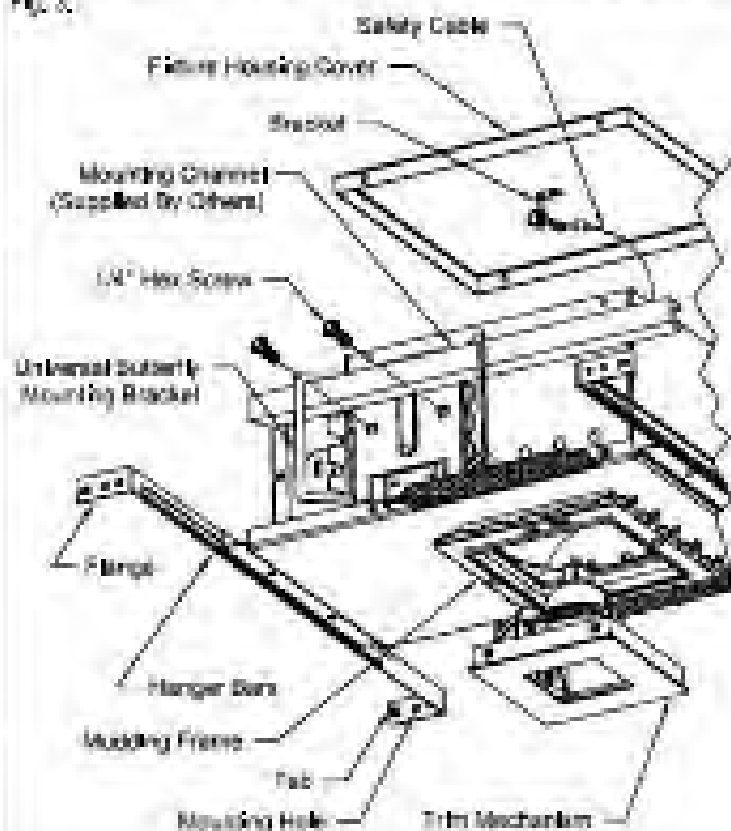
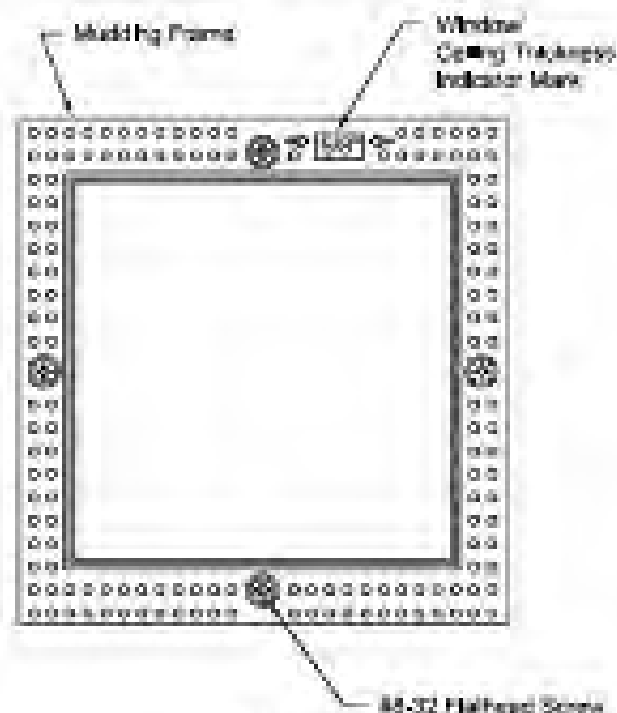
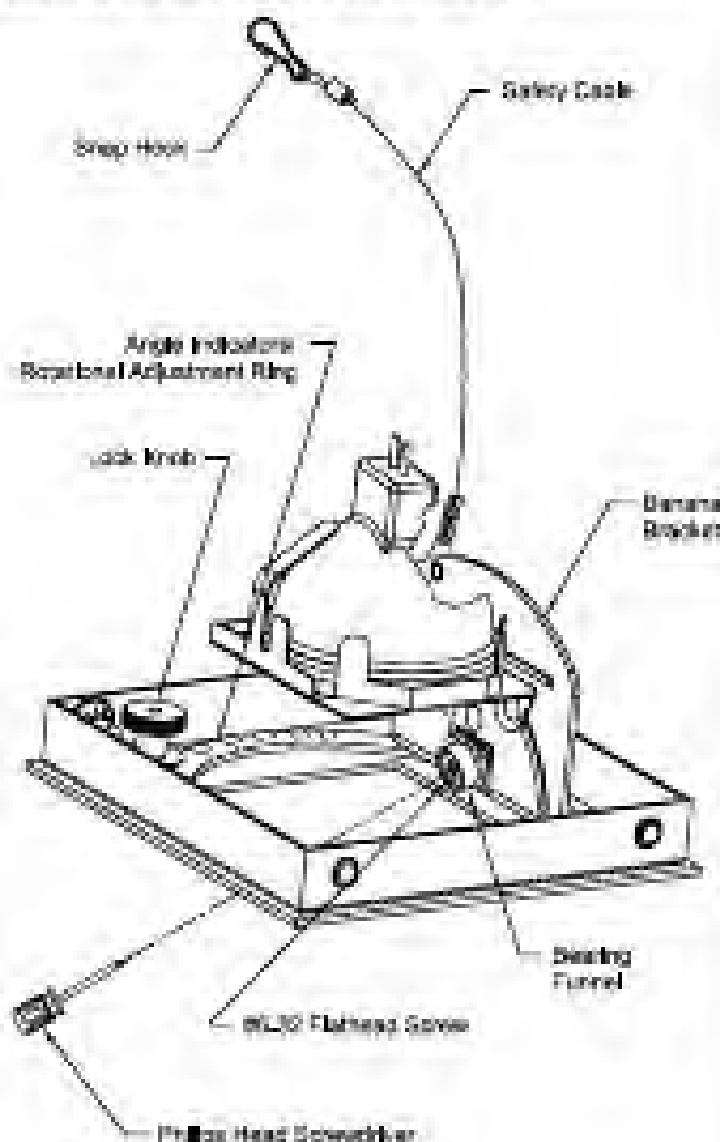

Figure 1
Figure 2
Figure 5
1. Fixture comes equipped with Universal Butterfly Mounting Brackets and can take common 1 inch or 1 1/2 inch Black Iron or Galvanized Mounting Channels (Supplied by Others). See Fig. 1.
3. Hammer Hangers to seal Hanger Bar Tabs in rafters. See Fig. 1.
4. Secure Hanger Bars using one (1) nail in Mounting Hole in each Flange.
5. Mudding Frame is sent unmounted from factory. Adjust Mudding Frame to applicable Ceiling thickness (1/2", 5/8", 3/4", 1") by setting in 30° increments until dashed Ceiling Thickness Indicator Mark shows through window in Mudding Frame. See Fig. 2.
6. Secure Mudding Frame using four (4) #6-32 x 1/2 inch Flathead Screws (for 1/2 inch, 5/8 inch and 3/4 inch Ceiling thickness) or four (4) #6-32 x 3/4 inch Flathead Screws (for 1 inch Ceiling thickness).
7. Adjust elevation of Fixture so Mudding Frame Edge will be flush with surface of finished Ceiling by loosening two (2) 1/4 inch Hex Bolts on both Universal Mounting Brackets. See Fig. 1.
8. Tighten two (2) 1/4 inch Hex Screws on both Universal Butterfly Mounting Brackets to secure Fixture. See Fig. 1.
1. Connect Safety Cable attached to Banana Bracket on Trim Mechanism (See Fig. 1 & Fig. 5) to Fixture by Inserting Safety Cable through opening in Fixture and Inserting Snap Hook (See Fig. 5) on end of Safety Cable into Hole in Bracket attached to Middle of Fixture Housing Cover (See Fig. 1).
1. With power ON and Trim Mechanism in place, Insert Phillips Head Screwdriver through Hole or Slot in Trim into Bearing Funnel. See Fig. 5.